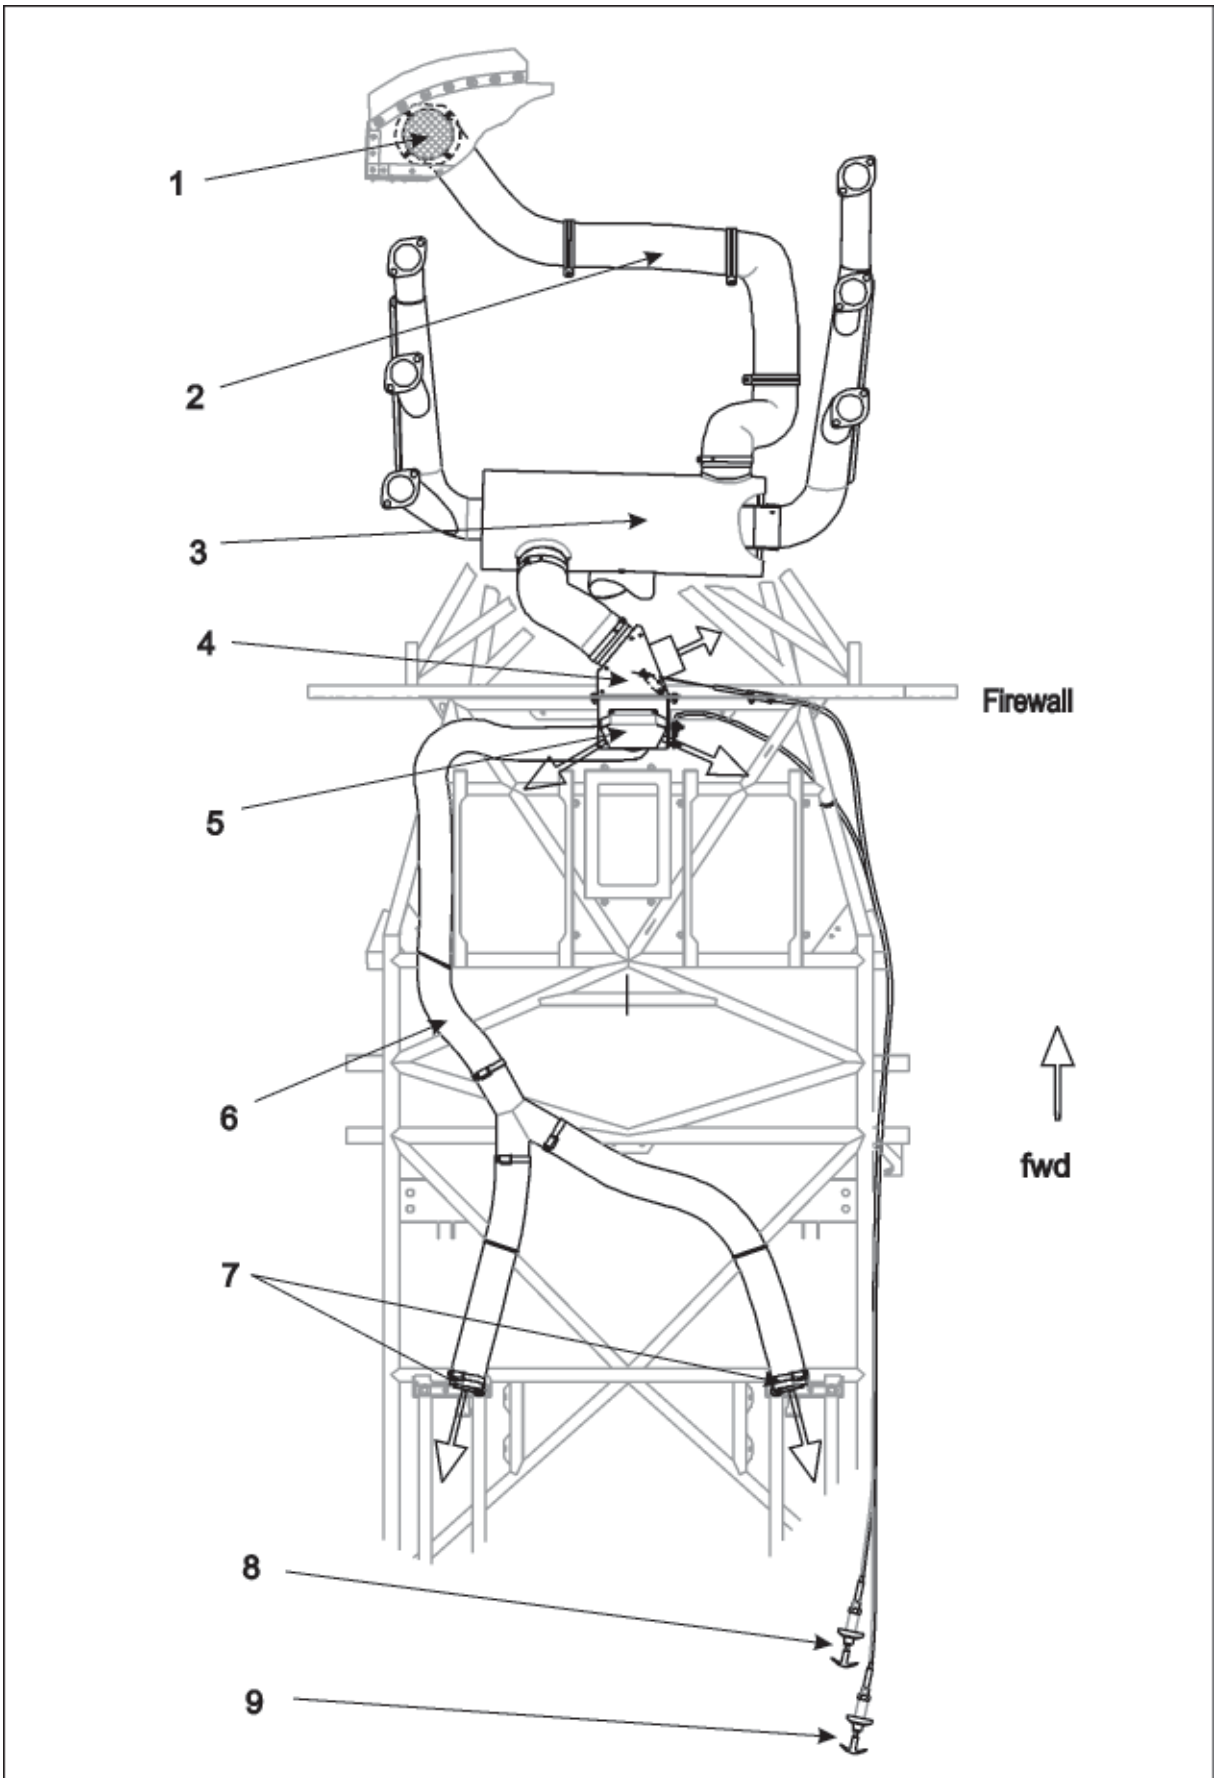

Figure 1 Heating System,
On the left front engine baffle a 3" air intake (1, figure 1) with screen is positioned. From there fresh air is routed through a 3" ducting (2) to the exhaust muffler heat shroud (3), where it is heated up. An inlet box (4) is placed on the engine side of the firewall. Using the main handle (9) the warm air can there be guided into the cockpit or dumped overboard. A distribution box (5) is located on the aft side of the firewall. Using the distribution handle (8) the ratio of warm air supply between front and rear can be controlled. Turning the handles to the right as far as they will go fixes the Bowden cables. The distribution box incorporates the warm air dispensers for the front occupant as well as the flange for the 2" ducting (6) to the air outlets (7) at the pilot's feet.